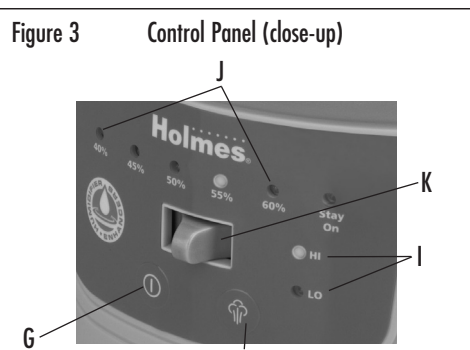

Figure 3
E. Control Panel (see Figure 3 for close-up)